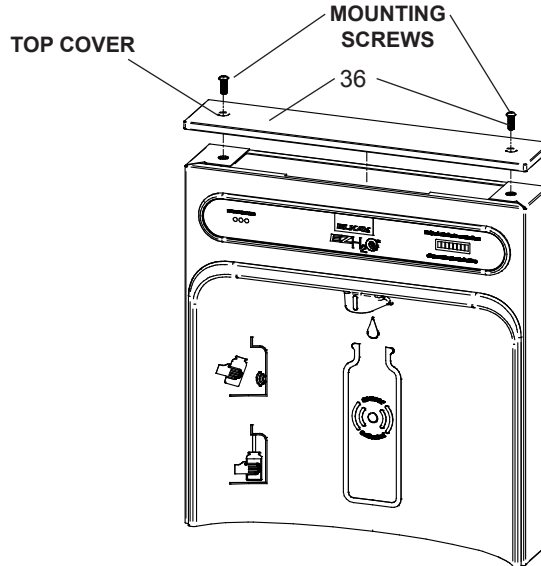

Fig. 8
- 9) Once Bottle Filler is installed on wall plate tabs, waterline and power cord are installed properly, push top of Bottle Filler toward wall and line up top cover two (2) holes.
- 10) Reinstall Top Cover on Bottle Filler (See Fig. 8) with two mounting screws from step 1 above. Caution, do not over tighten screws.